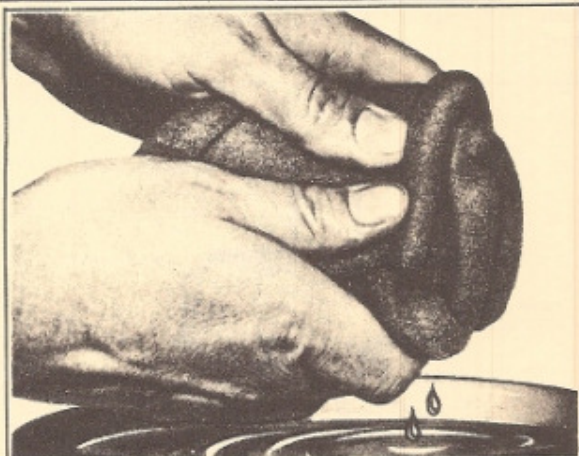

Figure 53 — Cleaning Polywrap Band
6. If band is usable, wash in kerosene or mineral spirits and squeeze out excess solvent (see figure 53).